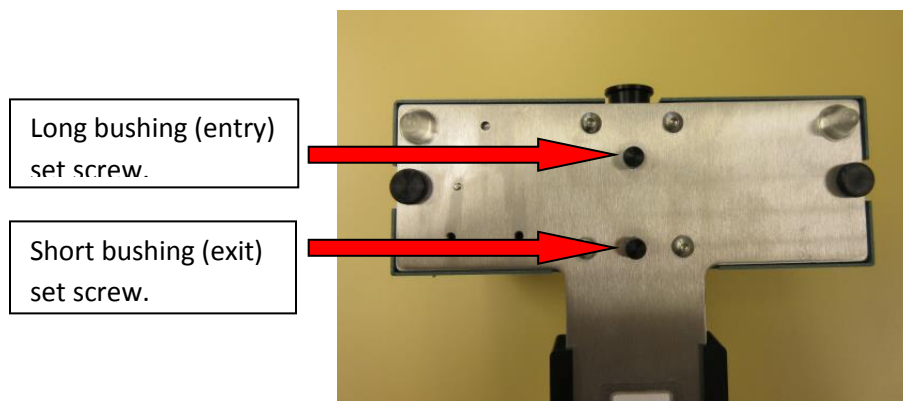

Figure 3.1.1 Bushing thumb screws
- Loosen the bushing thumb screws and remove bushings from cutter. **Figure 3.1.1**